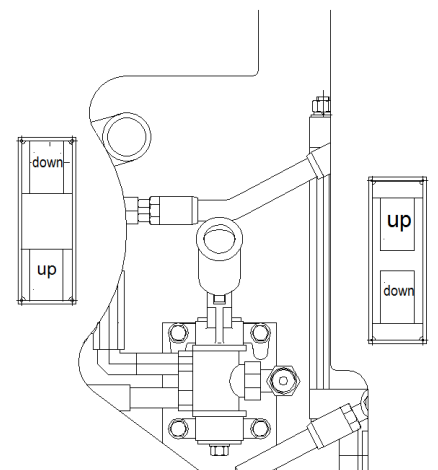

Fig. 7
4.4.4.11 After finishing the last casing string, use corresponding drill pipe slips or lifting sub to lift the casing pipe. Then open the spider door quickly and draw back the spider and the spider adapter plate. Let the casing string sit in the wellhead to wait for the next process. Refer to Fig. 7.